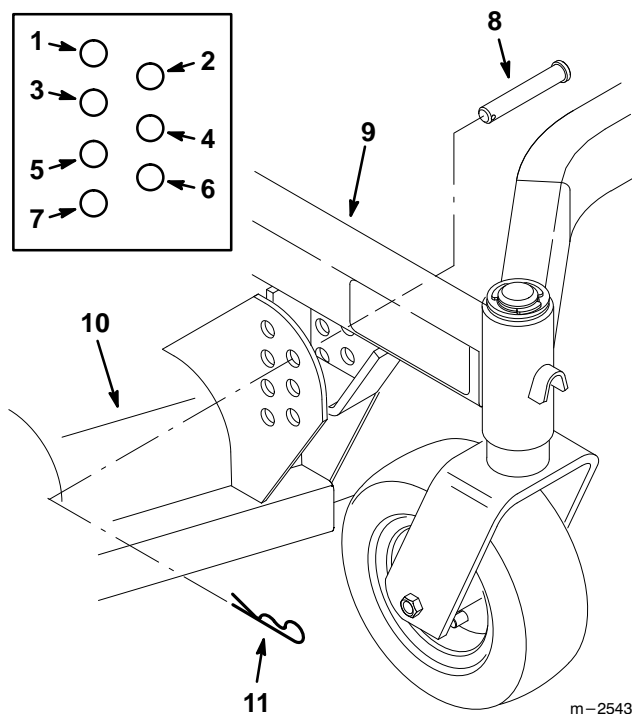

Figure 3
2. Mount the cutting deck to the carrier frame with four (4) clevis pins and hairpin cotters (Fig. 3).